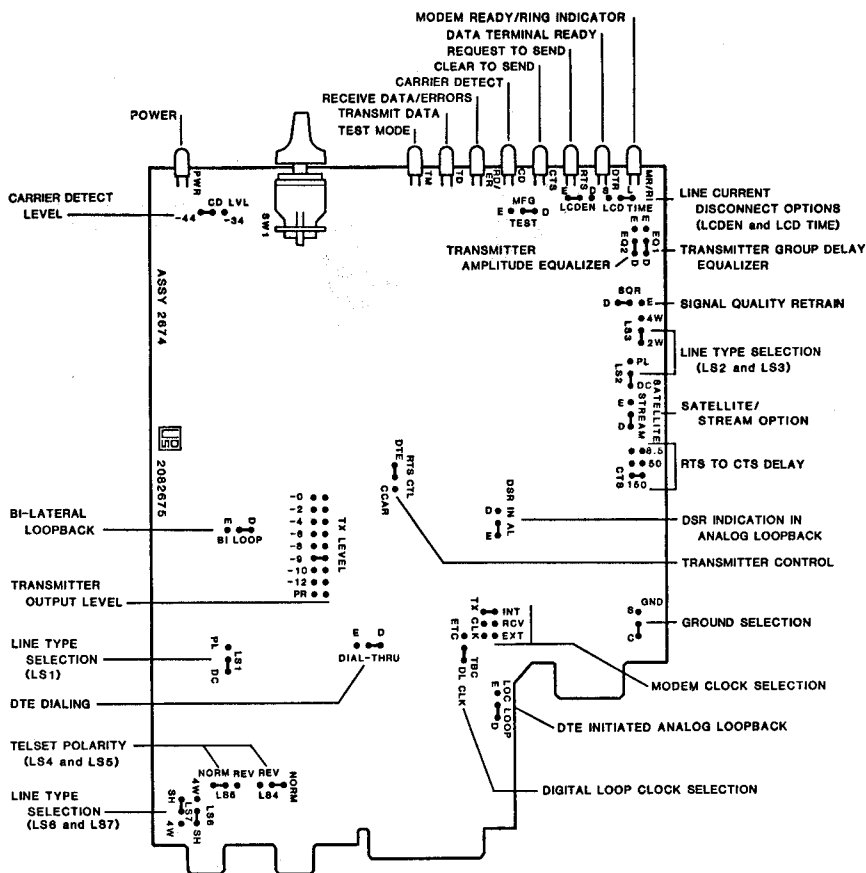

Figure 4-2
4.3.2 Test 2 - Option Strap Check (Figure 4-2)